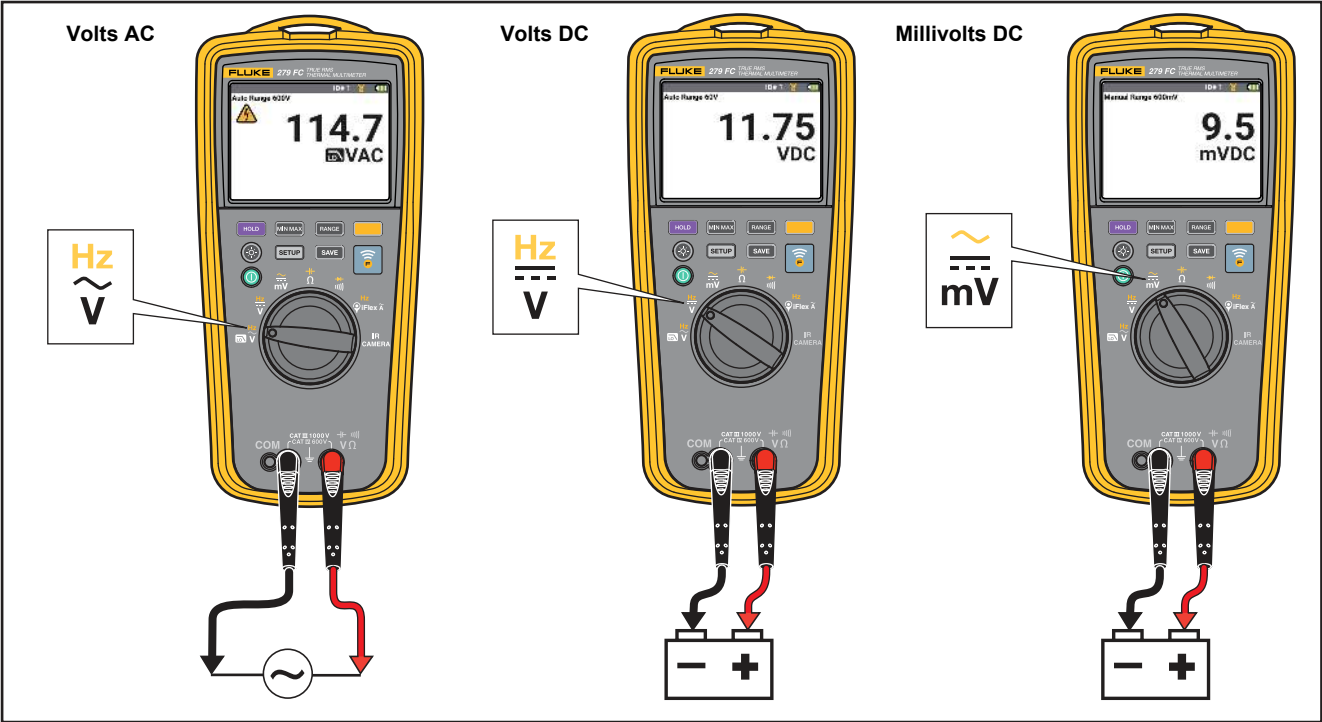

Figure 4. AC and DC Voltage Measurements
- AC and DC Voltage Measurements. See Figure 4.
1. Turn the rotary dial to  $\tilde{mV}$ . See Figure 4.